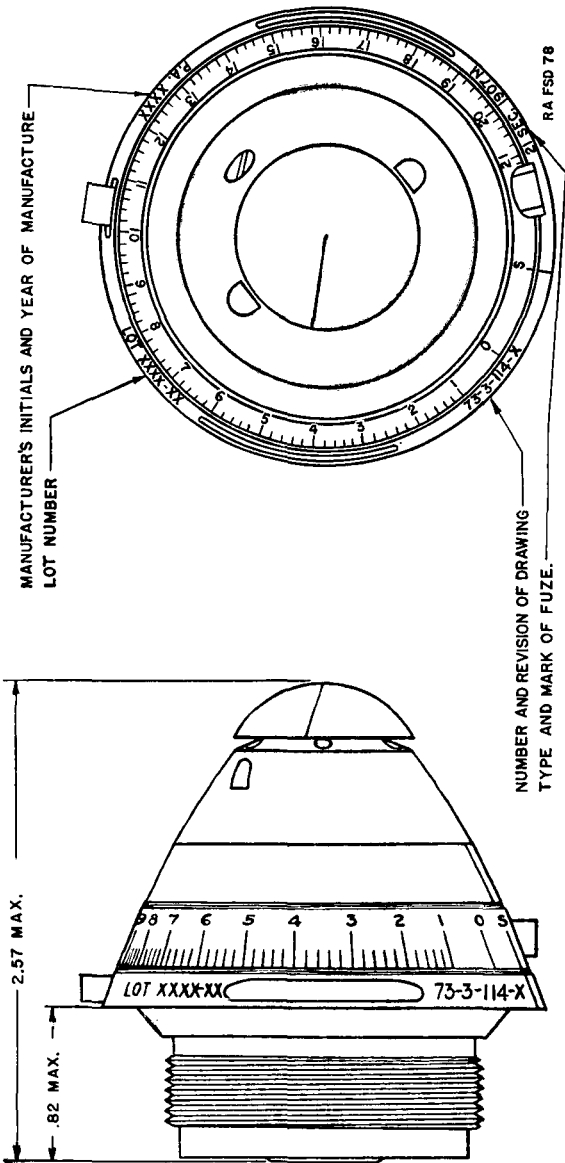

FIGURE 73.—Fuze, combination, 21-second, M1907M.
**68. Combination fuze, 21-second, M1907M.**—*a. Description.*—This fuze, shown in figure 73, is a combination percussion time type, designed for use with shrapnel. These fuzes will always be issued assembled to shell. The fuze contains two actions, percussion and time. The percussion action is always operative and will function on impact unless prior functioning has been caused by the time action. When percussion action is required, it is only necessary to set the graduated time train ring at safe (S) or for a time longer than the expected time of flight. The time train ring is similar to that of other powder time train fuzes and is graduated for 21.2 seconds. The fuze is set for time by means of a fuze setter. In the particular case of zero (0) setting, canister effect is obtained, that is, the fuze functions just beyond the muzzle of the cannon with the result that the shrapnel balls are projected from the shrapnel case somewhat similar to shot from a shotgun. Because the powder time train is adversely affected by moisture, every effort will be made to keep the fuze dry.
*b. Preparation for firing.*—The waterproof fuze cover must first be removed. If percussion action is required, the graduated time is set safe (S) or for a time greater than the expected time of flight.